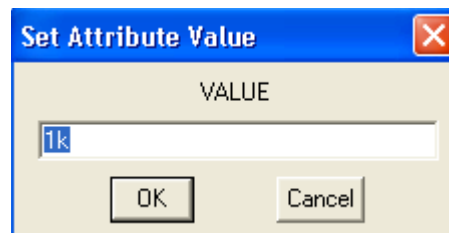

Figure 4
- If you only want to change the value of the part (if you don't want all your resistors to be 1K ohms), you can double click on the present value and a box called "Set Attribute Value" will appear see Figure 4. Type in the new value and press OK. Use u for micro as in uF = microFarad.